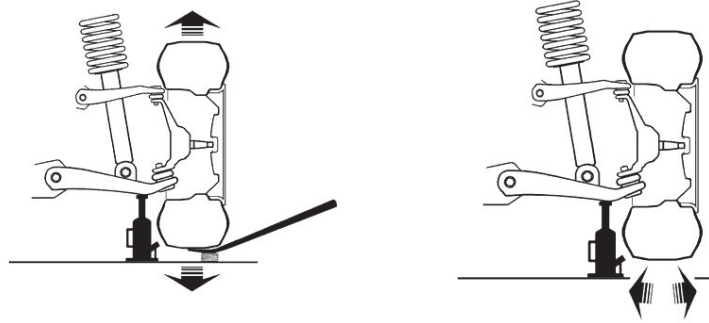

Fig. 1-13 Inspection Method for Lower Swing Arm Ball Head
1.4.3.3 Carry out overall inspection on the vehicle: See the above table for the details of the items; some of the items such as the inspection of the ball head, wheel bearing and bushing need to lift the vehicle (as is shown in Fig. 1-13). At this time, loosen the handbrake, and the inspection will be completed. If there are any unqualified positions, corresponding adjustment and replacing shall be carried out. Pull the handbrake; push the turntable and side sliding plate inward; lay down the vehicle; and press up and down for several times to make the suspension recover the natural status.